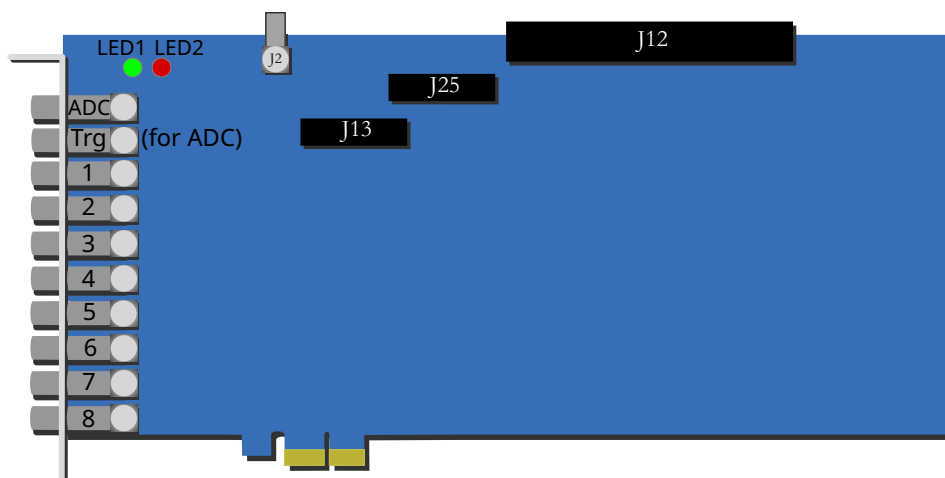

Figure 2.3 Schematic view of a TDC8HQ board including the inter-board connectors.
on the TiGer. Furthermore, three inter-board connectors can be found near the top edge of the TDC8HQ board, as displayed in Figure 2.3. Connector J25 is reserved for future use. The pinout of connector J12 is shown in Table 2.1 and the pinout of connector J6 is depicted in Table 2.2. Connector J2 is a coax clock input that must receive a 10 MHz clock if multiple boards are used together as described in Section 2.4.
- On the PCB (see Figure 2.3): The red LED2 lights up during the configuration of the FPGA and turns off afterward. If it stays permanently lit, the configuration failed. The green LED1 lights up after the board is initialized.